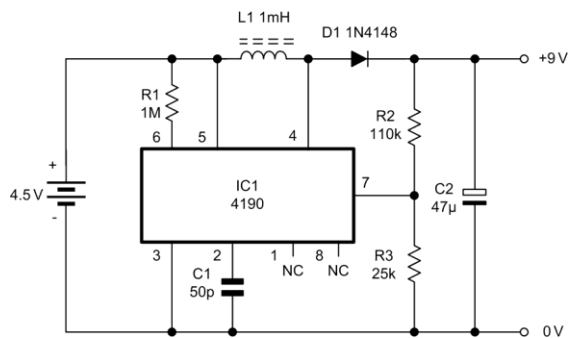

Figure 6.38 See Question 6.10
- 6.10 Fig. 6.38 shows a switching regulator circuit that produces an output of 9 V for an input of 4.5 V. What type of regulator is this? Between which pins of IC1 is the switching transistor connected? Which pin on IC1 is used to feed back a proportion of the output voltage to the internal comparator stage?